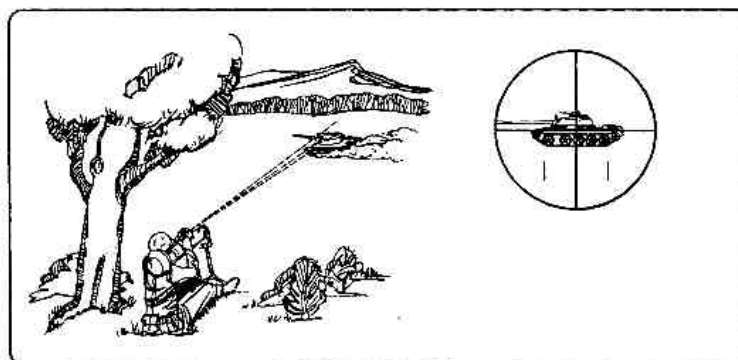

Figure 4-8. Correct sight picture maintained.
- b. To fire the weapon, push the safety plunger in with the thumb of the right hand, depress and hold the trigger, and maintain the sight picture until impact (Figure 4-8). When engaging a moving target, make adjustments by moving the upper portion of the body left or right for azimuth and up or down for elevation.